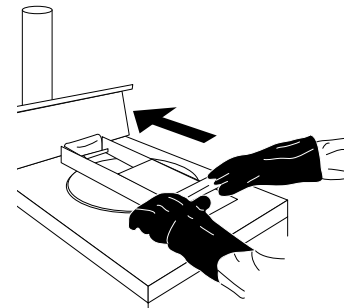

FIGURE 17
- C. Then, with the lid in lowered position, move handlebar to open (Figure 17).